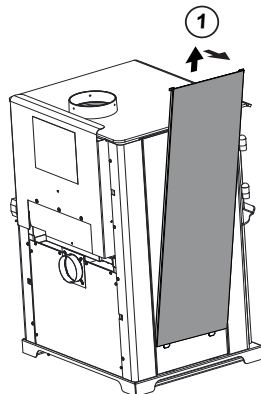

Figure 24.4
1. Remove solid panel from side by lifting up and pulling away from appliance (use a flat tool to pry from bottom if needed) (Figure 24.4).
4. Reattach tile frame (Figure 24.4).